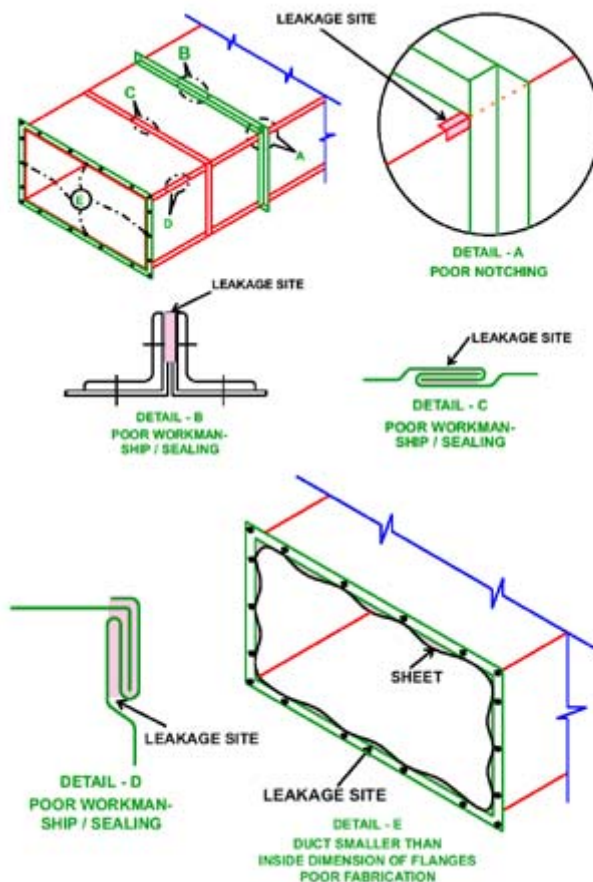

Figure 1 : Common duct leakage sites
3. **"The weak points" in duct work.** Air leakage in installed ductwork occurs almost entirely at the longitudinal seams and the cross joints, particularly at the corners, and at the intersection of the seams and crossjoints (See **Figure 1**). The specifications adopted for the joints, methods of fabrication adopted, material and thickness stipulated - all have a bearing on the leakage rate. The last but not the least, the workmanship of ductwork - especially, in our country - is also obviously a key factor, which influences the leakage.